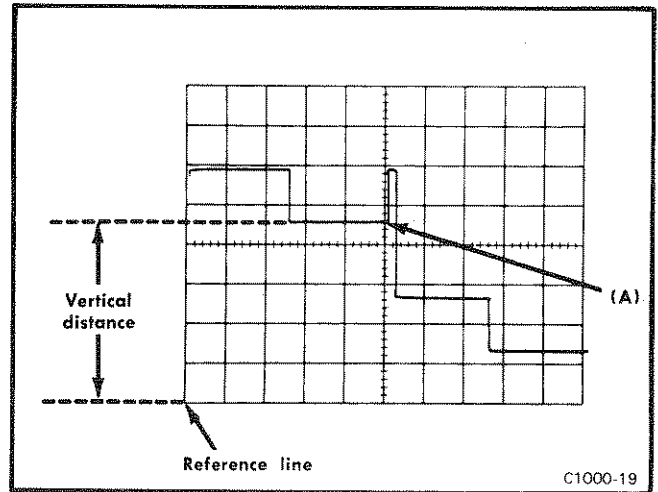

Fig. 1-3. Measuring instantaneous dc voltage with respect to a reference voltage.
4. Measure the distance in divisions between the reference line and the point on the waveform at which the dc level is to be measured. For example, in Fig. 1-3 the measurement is made between the reference line and point A.